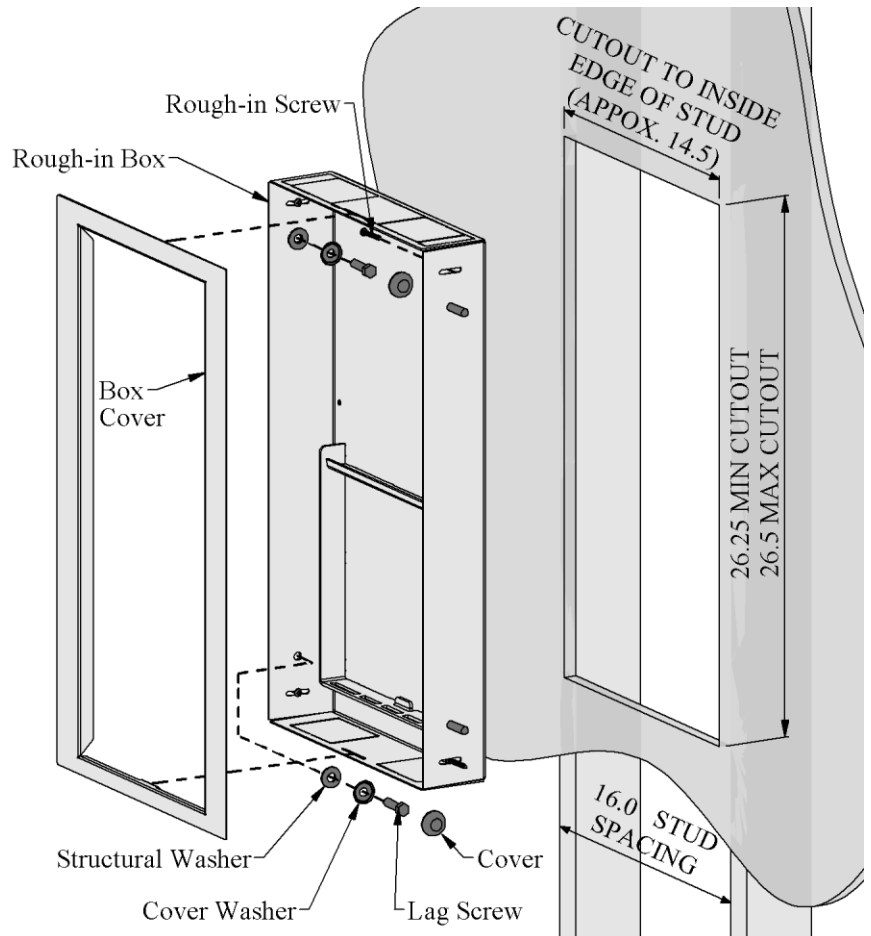
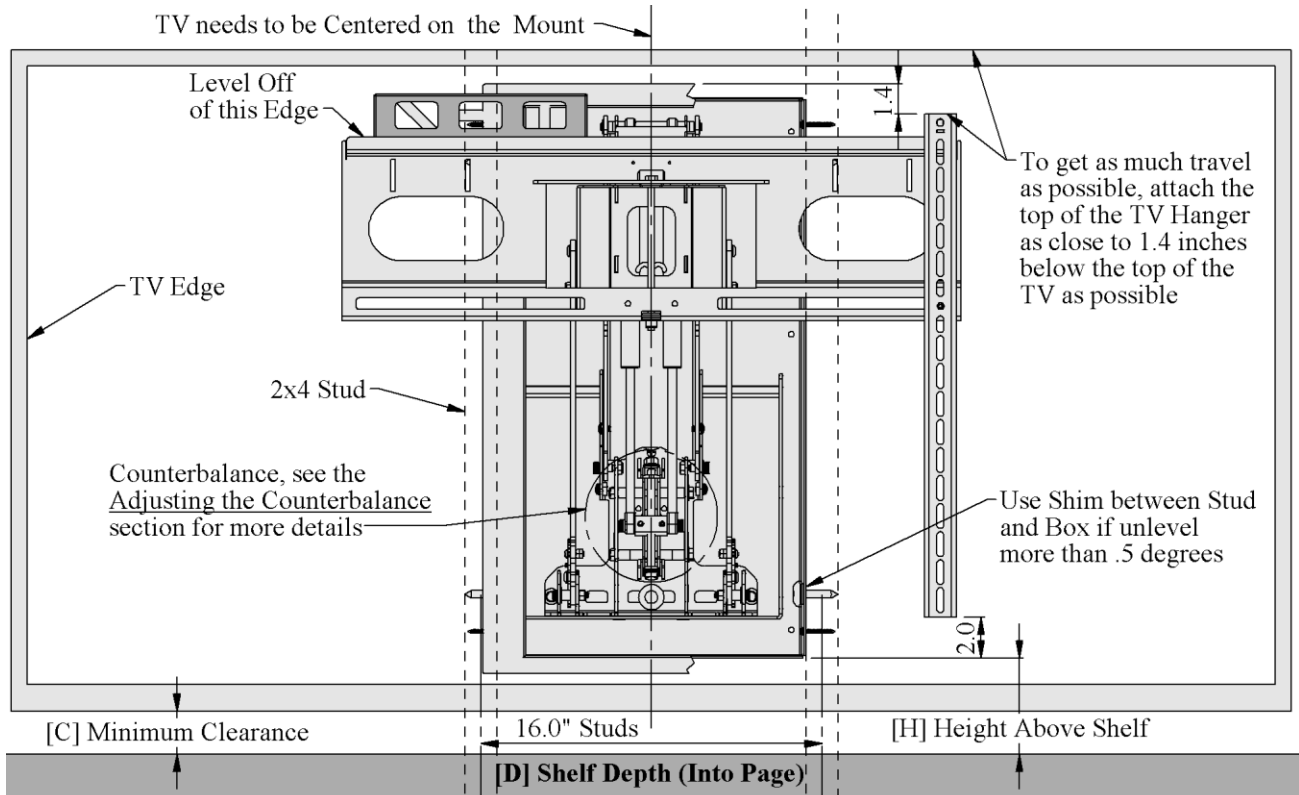

Figure 4, Attaching to Wall
Figure 6, Positioning Mount on the Wall
4. Figure 6 shows how the studs, Rough-In box, shelf, mount, and TV all relate to each other.
1. Figure 6 shows the important things to look for and measure.
1. Figure 4 and Figure 6 show how the mount gets laid out in the wall.
4. The Center of the TV should be centered between the 2 16" studs as shown in Figure 6.
6. Figure 4 shows the correct order to put on the lag screw.
8. Ensure the mount is level, if not add shim between the box and stud as shown in Figure 6.
The TV Clearance Table shows the minimum clearance [C] needed between the shelf top and the bottom of the TV (or the bottom of an attached speaker, whichever is lower) for the mount to swing around the shelf. To find the clearance needed, find the shelf depth [D], in this example 8", and go down the column and find the corresponding minimum clearance height [C], which is 3". Figure 6 shows where to measure [C] and [H].